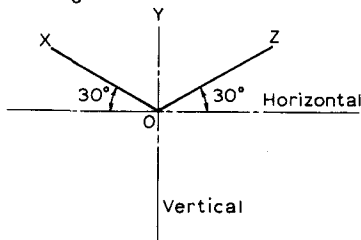

Fig. 3.128
**Isometric axes.** In Fig. 3.128 three lines OX, OY and OZ have been drawn which make equal angles with each other. One of the lines is made vertical. These three lines are called the *isometric axes* and they form the basis for isometric drawing.